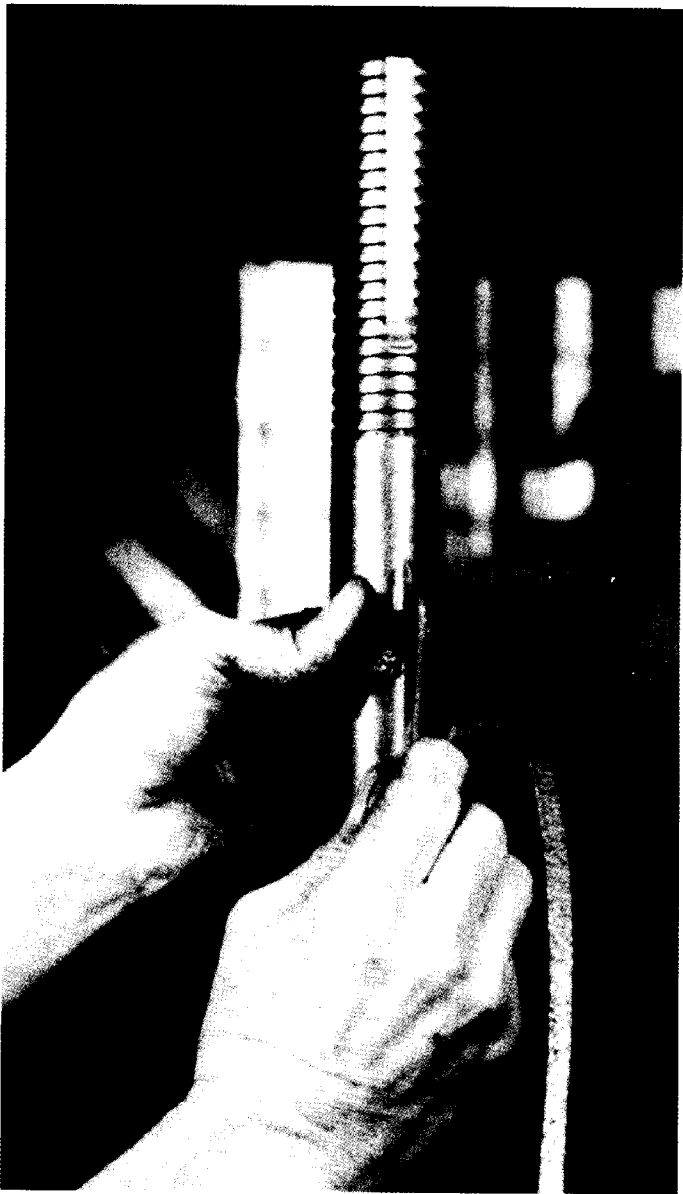

Fig. 10-2. Marking The Length Of Coil Form Packing Required For One Packing Ring.
C. The packing rings must have a gap of $1/16$ to $1/8$ inch and the ends must be parallel. If the packing is received in coil form, it must be cut into rings before installing. This can be done by tightly wrapping one end of the packing around the top shaft like one coil of a coil spring, and marking the coil with a sharp knife. (See Fig. 10-2.) After cutting on the mark, this length of packing may be used as a template for cutting all the other rings.